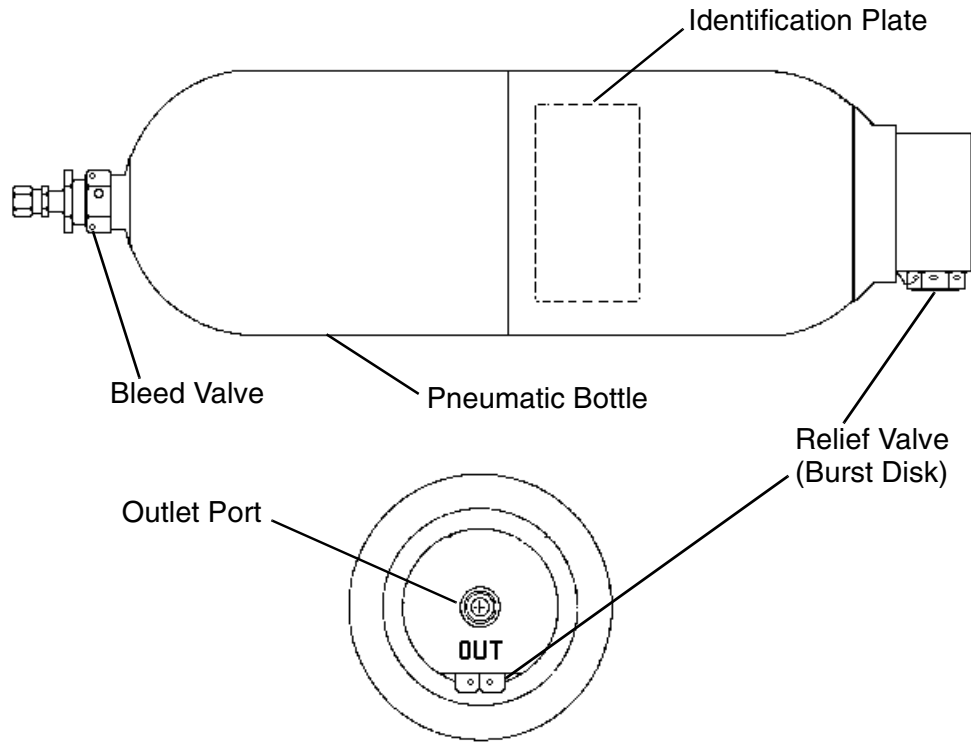
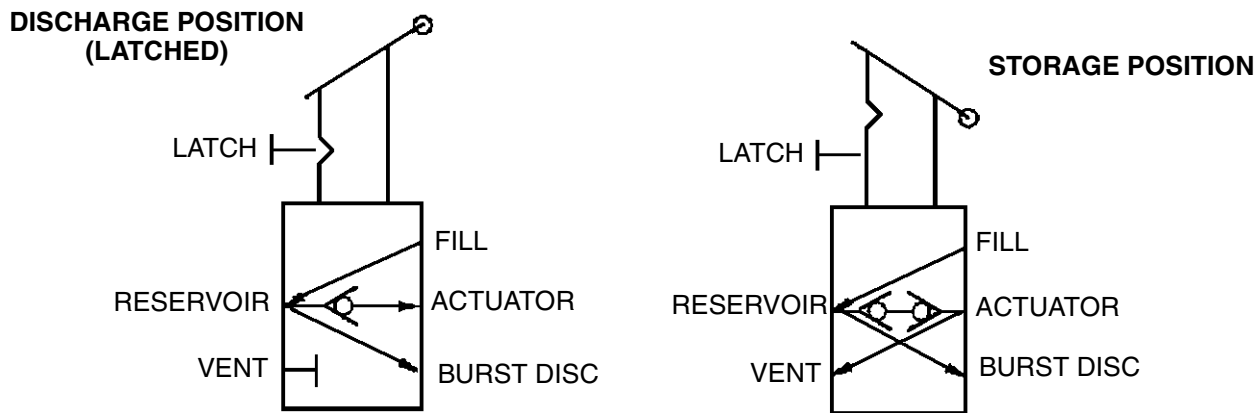

Figure 3. Primary Components for Part Number 40005337-1
Figure 5. Valve Positions
- C. Pneumatic Bottles, part numbers 40005337-1, 40005355-1, and 40005370-1, consist of a container assembly, a discharge indicator (burst disk), and a valve (Figure 3 and Figure 4).
- (1) Part numbers 40005337-1 and 40005355-1 use a red glass discharge indicator, part number 13519.
- (2) Part number 450005370-1 uses foil for the discharge indicator.
- D. The valve actuates from the 'storage' to the 'discharge' position (Figure 5) and must be manually released before returning to the 'storage' position.